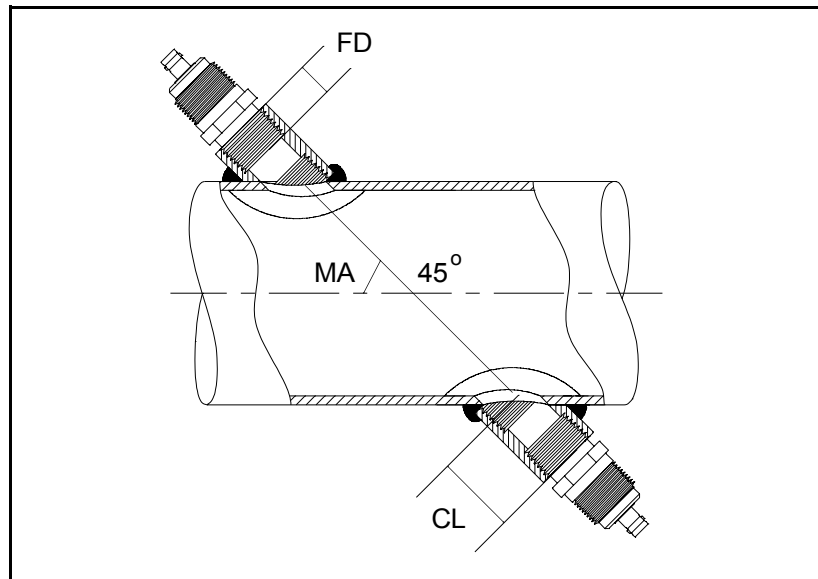

Figure B-2: Determining the Pipe Coupling Length
- the pipe inside diameter (ID)
- the pipe wall thickness (WT)
- the installed pipe coupling length (CL)
- the transducer face depth (FD)
- the mounting angle (MA)
Measuring P and L (cont.) Use *Figure B-2* below to properly measure the pipe coupling length. Typically, the transducer face is positioned just outside the inside diameter (ID) of the pipe, or slightly retracted inside the coupling.